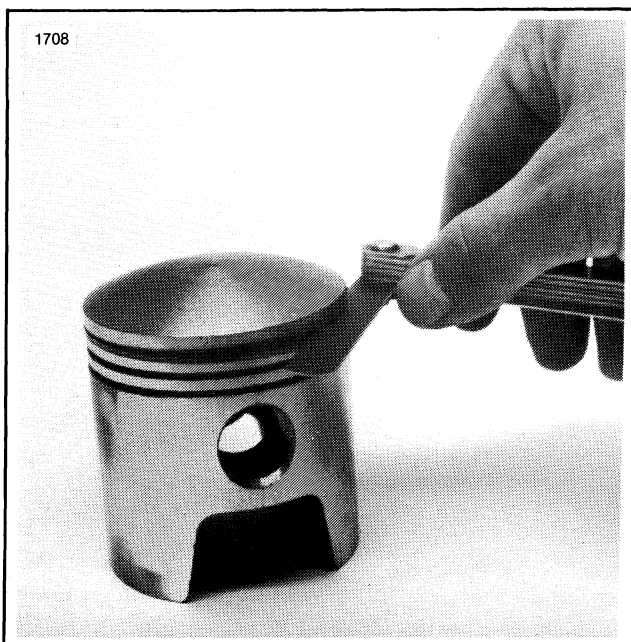

Figure 5-12. Checking Ring Side Clearance
1. See Figure 5-12. Check the side clearance of the rings in the piston grooves using a feeler gauge. Side clearance should be .002-.004 in.